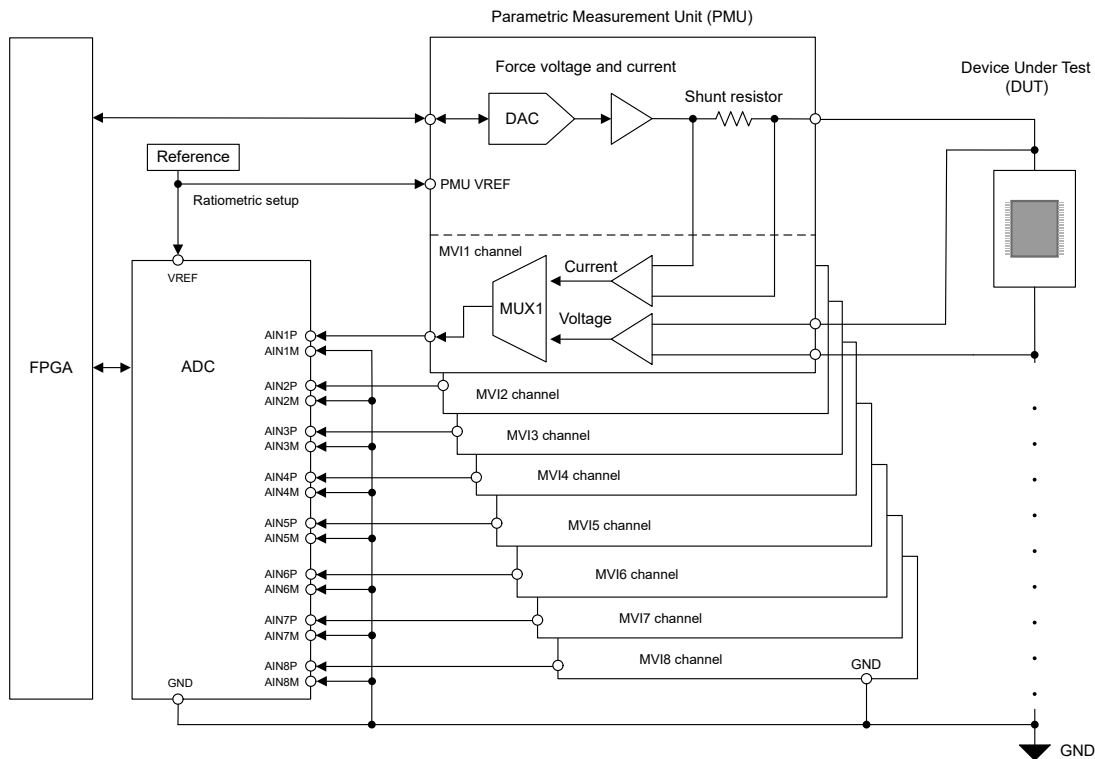
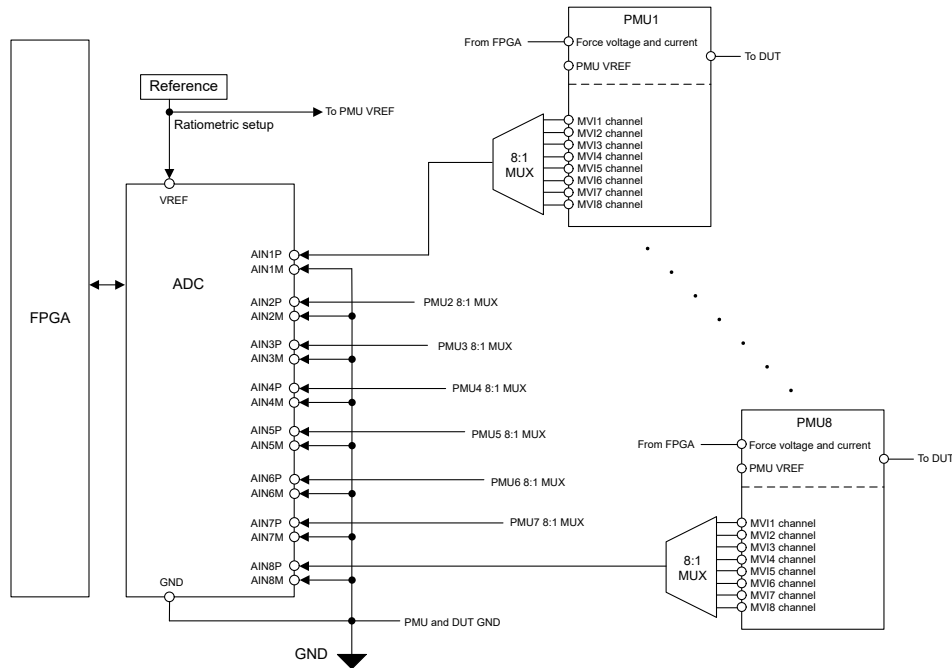

Figure 1. VI Card in an ATE
Figure 2. VI Card with 8:1 PMU:ADC Channel Count
The VI card contains several channels of the subsystem shown in Figure 1. A higher number of VI channels allows parallel testing of DUTs which reduces test-time and cost.
For increased accuracy, the PMU and ADC can share a common reference voltage, as shown in Figure 1. Configuring the reference voltage in such a ratiometric manner cancels the reference drift error.
VI cards can have each PMU MV_Ix output connected to the ADC channel, as shown in Figure 1. Alternatively, the subsystem can use a multiplexer to connect multiple PMU outputs to one ADC channel. Figure 2 shows an example where each PMU has eight MV_Ix output channels multiplexed and connected to one ADC input channel. This enables higher channel densities for the VI instrumentation card and reduces cost.
The analog input bandwidth of the ADC must be higher when using multiplexers (such as Figure 2 shows) to accurately capture the change in PMU output signals as the multiplexer output is switched. The ADS9813 features two user-selectable analog input bandwidths: low-noise mode up to 22.7kHz, and wide-bandwidth mode up to 700kHz. The wide-bandwidth mode allows the ADS9813 to sample multiplexed PMU output signals as the device enables step-settling to 99.95% of the full-scale (FS) signal in 7.5µs. The low-noise mode optimizes signal bandwidth versus noise performance in applications which require fewer PMU output measurements, as shown in Table 3.